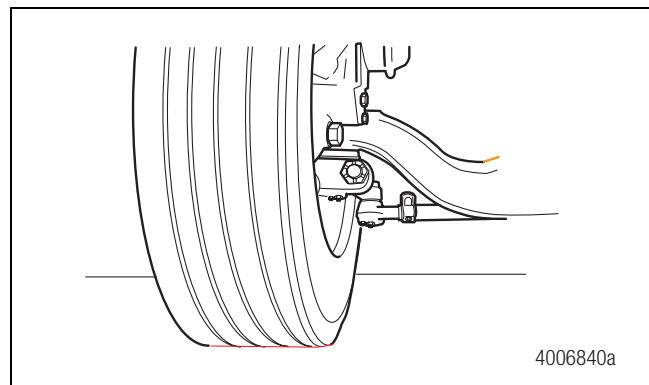

Figure 5.15
2. Verify that the tires touch the ground. Do not raise the vehicle. The full weight of the vehicle must be on the axle assembly. Figure 5.15.